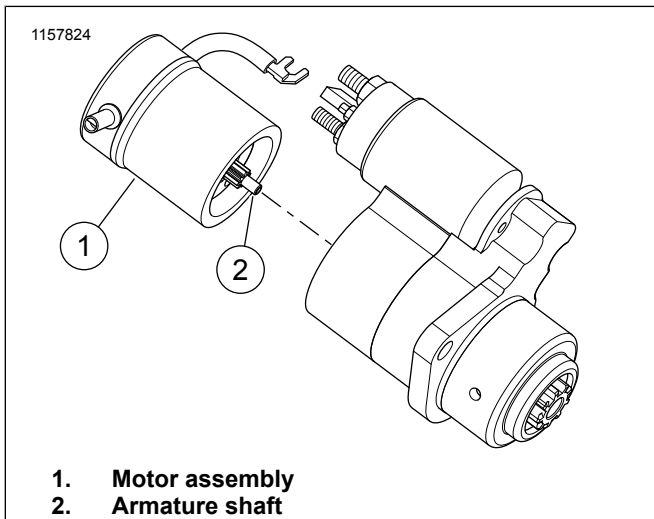

Figure 2. Motor Assembly
4. Figure 2 Remove the motor assembly (1).